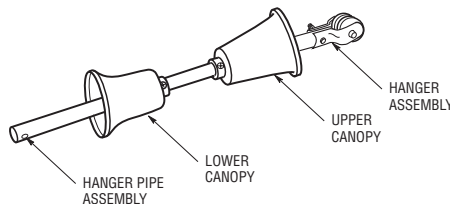

Figure 1
- 1. Put the upper canopy and lower canopy on the hanger pipe assembly, facing in the proper direction. (See Figure 1.)